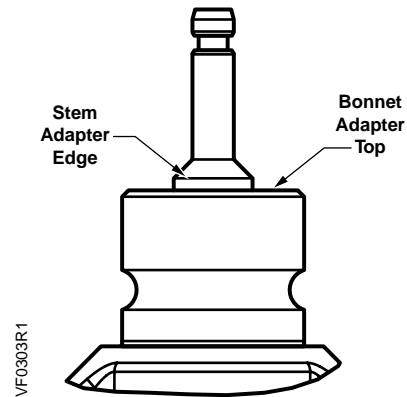

Figure 1.
- b. For "Up to Open" valves: Adjust stem adapter so that the edge is approximately 1/8-inch (5 mm) above bonnet adapter, while still maintaining at least two full threads of engagement. See Figure 1.